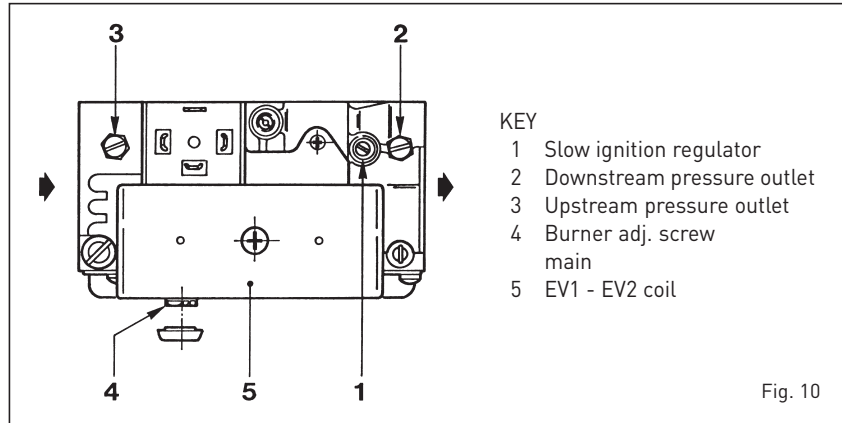
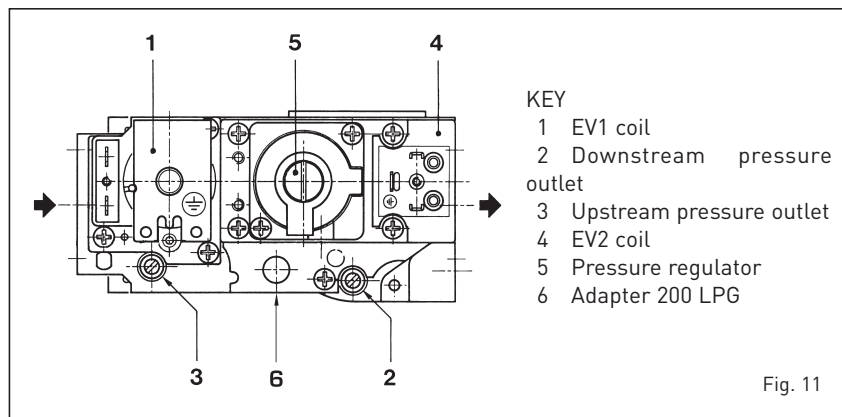

Fig. 10
Fig. 11
Standard **RX 19-26** boilers with electronic ignition have an SIT 830 TANDEM gas valve (fig. 10).
The **RX 37÷55** boilers are fitted with the HONEYWELL VR4605C gas valve (fig. 11).
- Remove the cap on the pressure regulator and tighten the adjustment screw (4 fig. 10 - 5 fig. 11).
- Install the adapter on the valve (6 fig. 11).
- Make sure that the capillary tube and minimum thermostat bulb are not damaged (Fig. 11/A)
In case of replacement of any thermostat, respect the insertion order (Fig. 11/A)